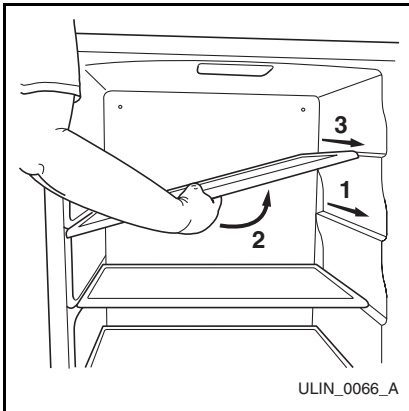

Figure 23
1. Pull shelf out about 6" (**Figure 23, 1**) until back of shelf clears the "hump" on the right hand side.
2. Tilt right hand edge of shelf up (**Figure 23, 2**).
3. Remove shelf from unit by pulling out (**Figure 23, 3**).